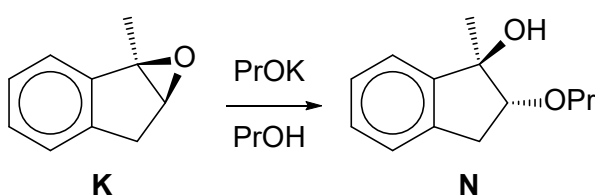

Fig. 6.2
When a different set of conditions as shown in Fig. 6.2 were used, **K** gives a different product **N**.
- (vi) By comparing the stability of intermediates formed, if any, and the stereochemistry of the products formed in both reactions, state and explain whether the reaction in Fig. 6.2 proceed by the same mechanism in (b)(iii). [2]
- (vii) Explain why PrOK is used for the reaction in Fig. 6.2 instead of pure PrOH. [1]